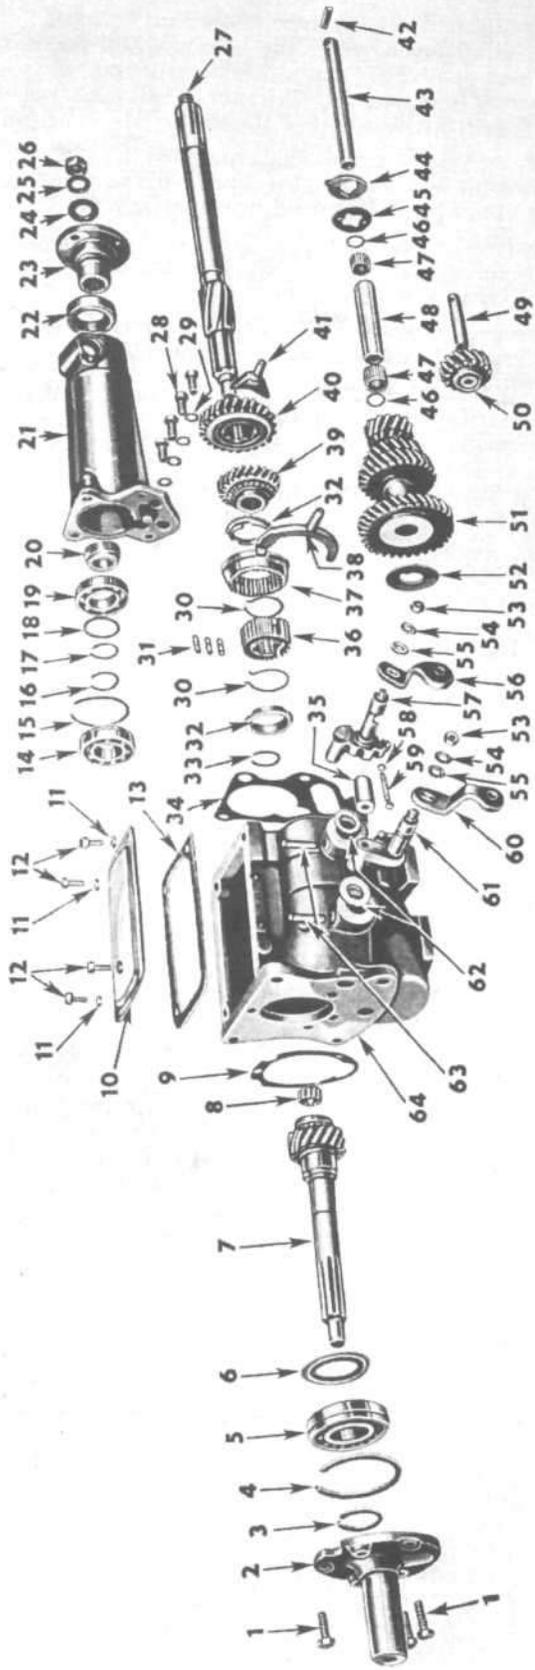

FIG. 195—STANDARD TRANSMISSION—2-WHEEL DRIVE—WITHOUT OVERDRIVE
- a. Remove the four screws from the transmission case cover (Fig. 195, No. 10). Remove the cover and gasket.
- c. Remove the screws from the front main bearing retainer (2) and remove retainer.